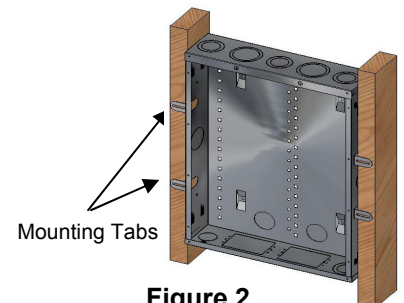

**Figure 1**
- If cable access is to be through the back of enclosure, remove wire access knockouts from rear of enclosure. (See **Figure 1**).
- Position enclosure in desired location and mark top of center keyhole opening located on the top center of enclosure (See **Figure 1**).
- Hang enclosure on screw and mark four (4) mounting holes and wire access holes on plywood. (See **Figure 1**). Also mark top and bottom of enclosure.